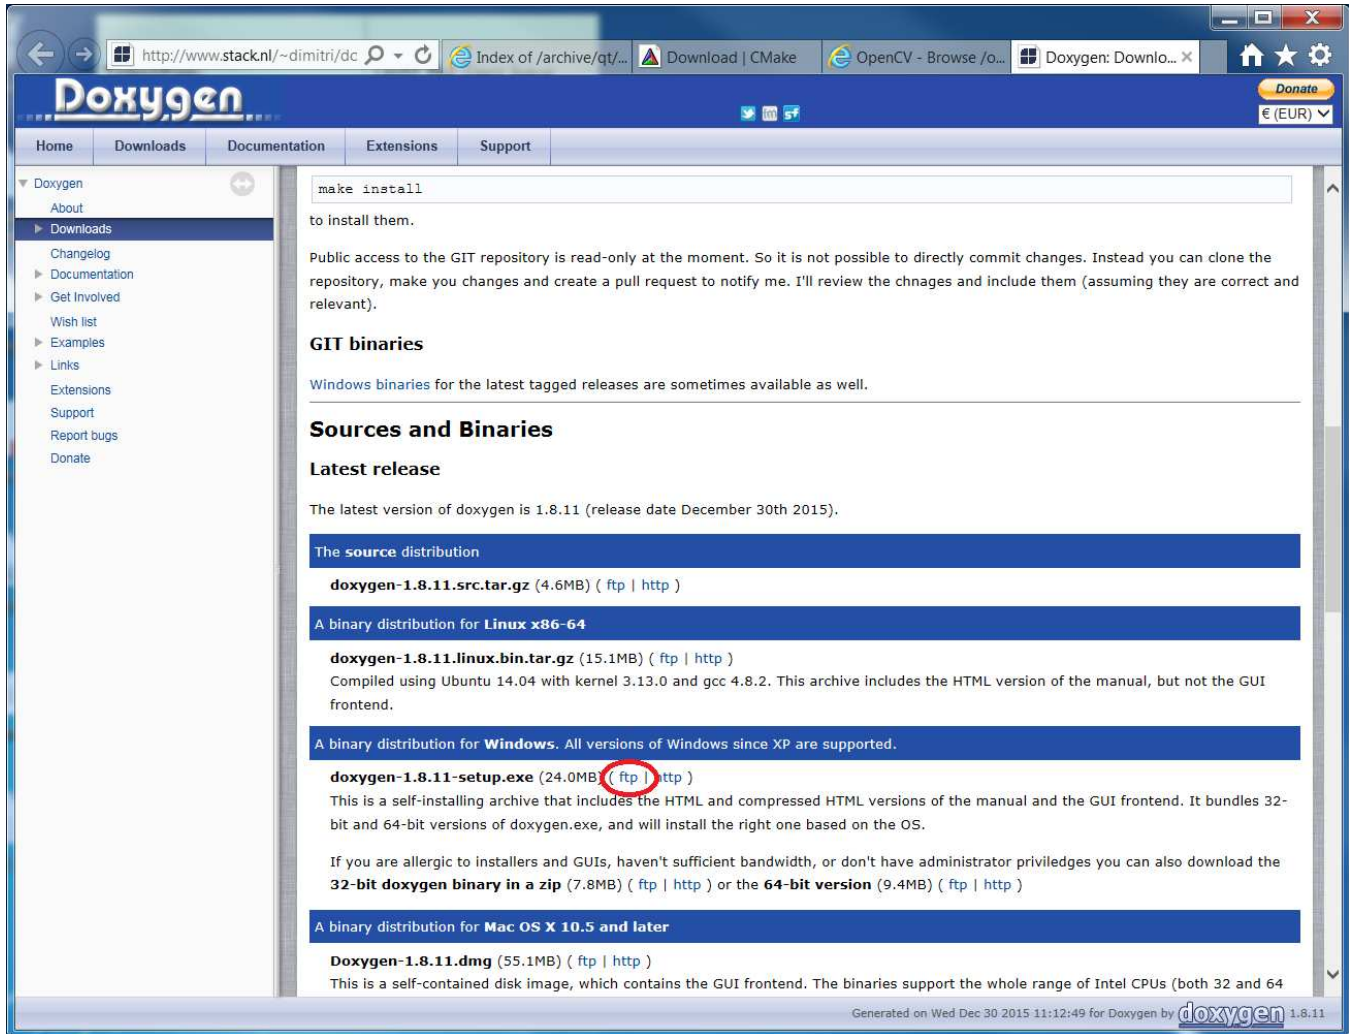

Figure 1. Doxygen Website
1. Using the link in Section 1, download the Windows binary distribution. Click on the “ftp” link highlighted in Figure 1.